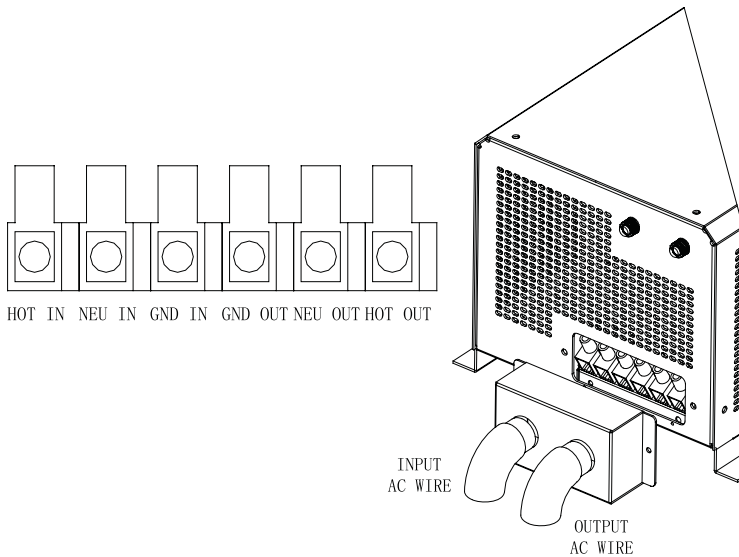

Figure 2-3 AC Connections
2. Feed the wires through appropriate conduit and the AC cover. In certain installations, conduit fittings may be replaced with strain reliefs, consult local and national codes. See Figure 2-3.
3. Following the wiring guide located in the AC wiring compartment (see Figure 2-3), connect the safety ground (bare, green or green and yellow), line (black or brown), and neutral (white or blue) wires from the AC input (utility, generator, etc.) to the terminal block and tighten to 10-15 inch pounds torque.